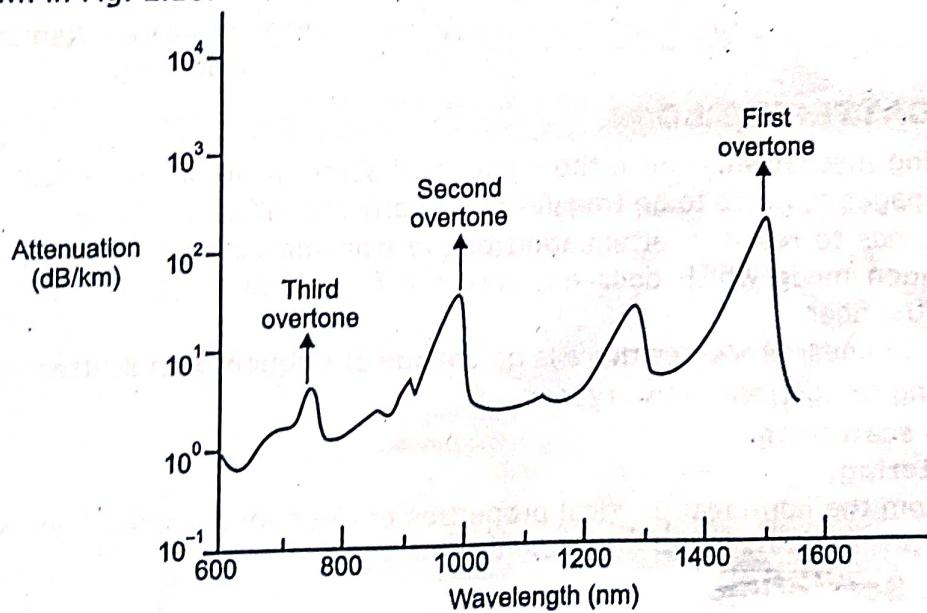

Fig. 2.18: The Absorption Spectrum for the Hydroxyl (OH) Group in Silica
- The fundamental vibrations give rise to over tones appearing harmonically at 1.38, 0.95 and 0.75 μm shown in Fig. 2.18.
- Fig. 2.18 shows the absorption spectrum for the hydroxyl group in silica.